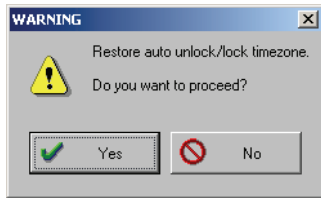

Figure 6-19: Restore Auto Unlock/Lock Confirmation
2. Click on the  button, and then click on the  button. A confirmation window appears (see Figure 6-19).